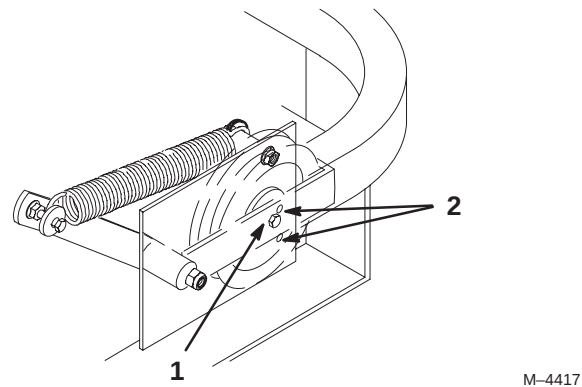

Figure 68
6. Check belt tension. The center bolt of spring loaded idler must be between the two alignment holes in left support plate (Fig 68).
Check position of center bolt in a High Height of Cut. The center bolt must be at or above the lower adjustment hole (Fig 68).
8. Check belt tension again. The center bolt of spring loaded idler must be between the two alignment holes in left support plate (Fig 68). Adjust, if necessary, and tighten all hardware securely.